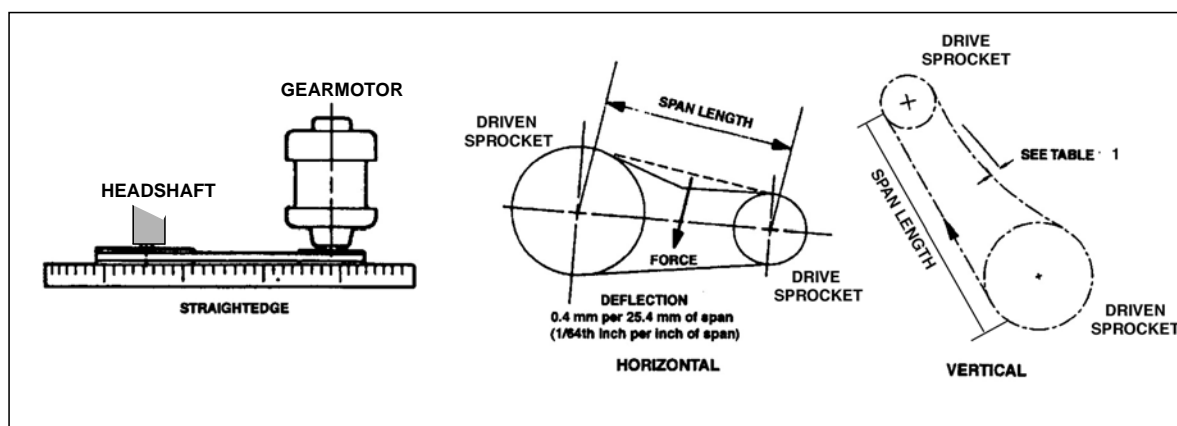

Figure 2. Gearmotor Alignment and Drive Chain Tension Adjustment
1. Using the gearmotor mounting bolts, tension the drive chain according to Figure 2 and Table 1. Check sprocket alignment using a straight edge or taut cord stretched across the faces of the drive sprocket and the driven sprocket (Figure 2). The tolerance is 1/8" per foot ( $\pm 0.5$  degrees or 3.5 mm per 0.3 m).